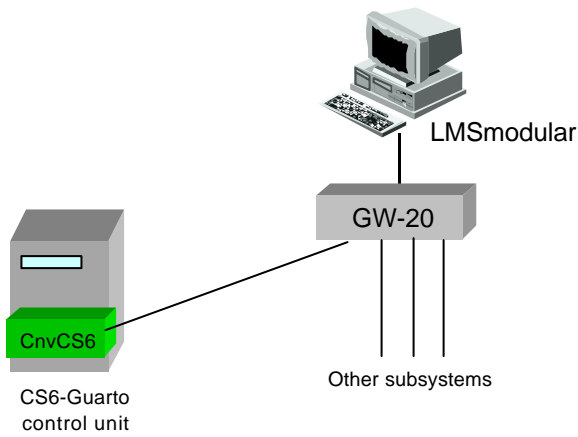

Fig. 1
- **Connection via GW-20 gateway:** one Guardto control unit, equipped with internal parallel LON-adaptor K31070 and CnvCS6, is connected to GW-20 on NetM-Pad; in this architecture, the CnvCS6 emulates a 2-level GW-21 gateway (see Fig. 1). Note that connection of the converter to GW21 is not possible.